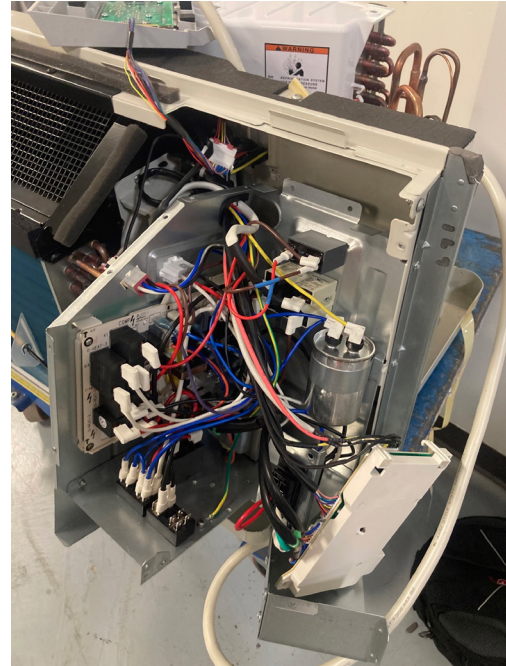

Figure 511
7. Remove from capacitor strap and disconnect terminals. See Figure 511.